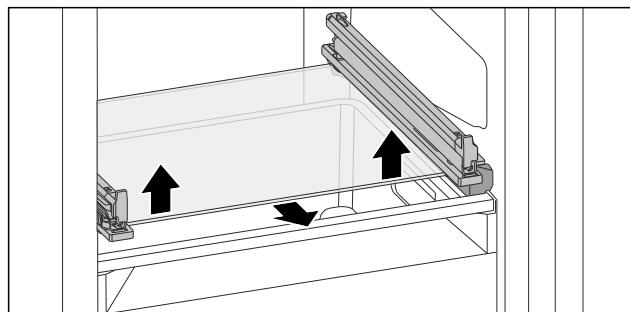

Fig. 131 Tilting drawer glass shelf
- Push glass shelf upwards from below on both sides. (see Fig. 131)